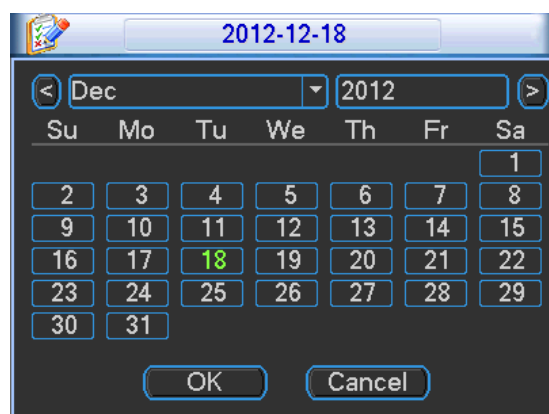

Figure 5-24
- **Holiday setting:** Click it you can see an interface shown as in Figure 5-24. Here you can set holiday date. Please go to the Holidays Period interface to set the holiday date record setup.